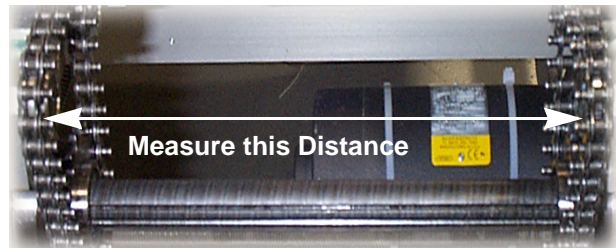

Figure 112: Unload End
- Measure the same locations at the Unload End assembly. Refer to Figure 112.